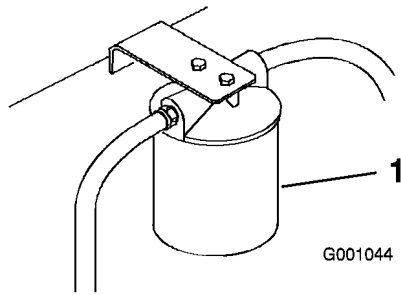

Figure 67
3. Place drain pan under filter, remove the old filter and wipe the filter adapter gasket surface clean (Figure 67).